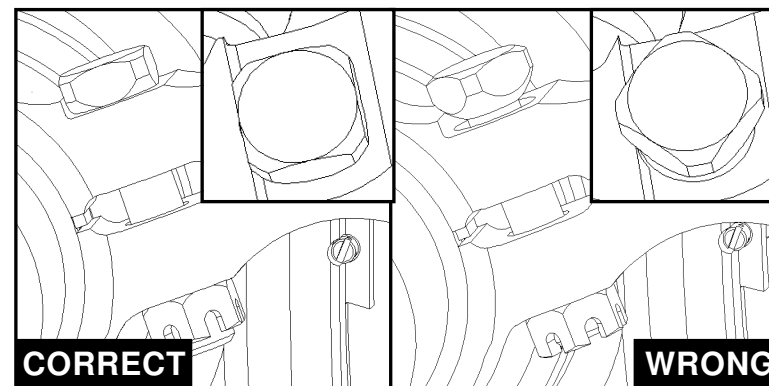

Figure 5-6
- (7) Lightly apply the anti-seize compound per MIL-PRF-83483 (e.g. Loctite® Moly 50™) or Loctite 8012 Moly Paste to the clamp screw and nut threads. Correctly position the bolt head (Figure 5-6) and hold in place with the fingers of one hand, while tightening the nut with other hand until snug. Using the torque wrench, torque the nut to 65-70 Nm (48-52 lb-ft). Check correct position of the bolt head after torquing.